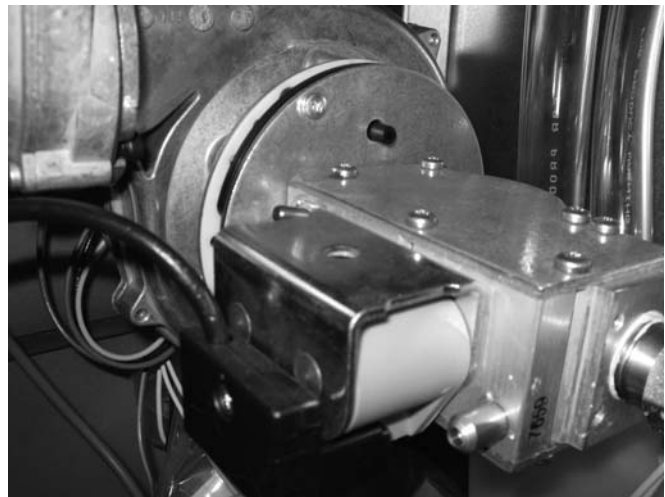

Figure 6
- Assuring that top of the gas valve is facing toward the front of the boiler, attach the valve and swirl plate to the blower assembly. See Figure 6.